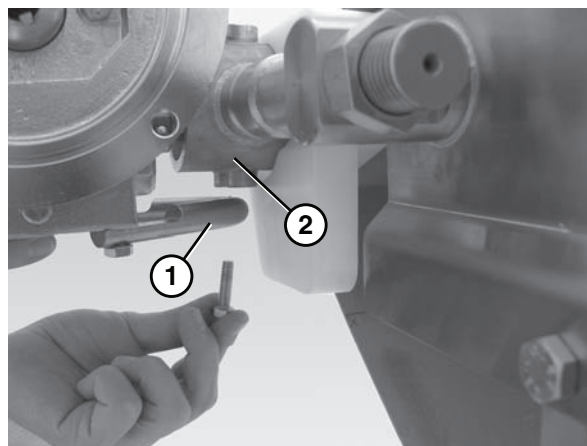

Figure 6
4. Attach the lower gearhead mounting bar (**Figure 6, item 1**) to the motor mounting bracket (**Figure 6, item 2**).